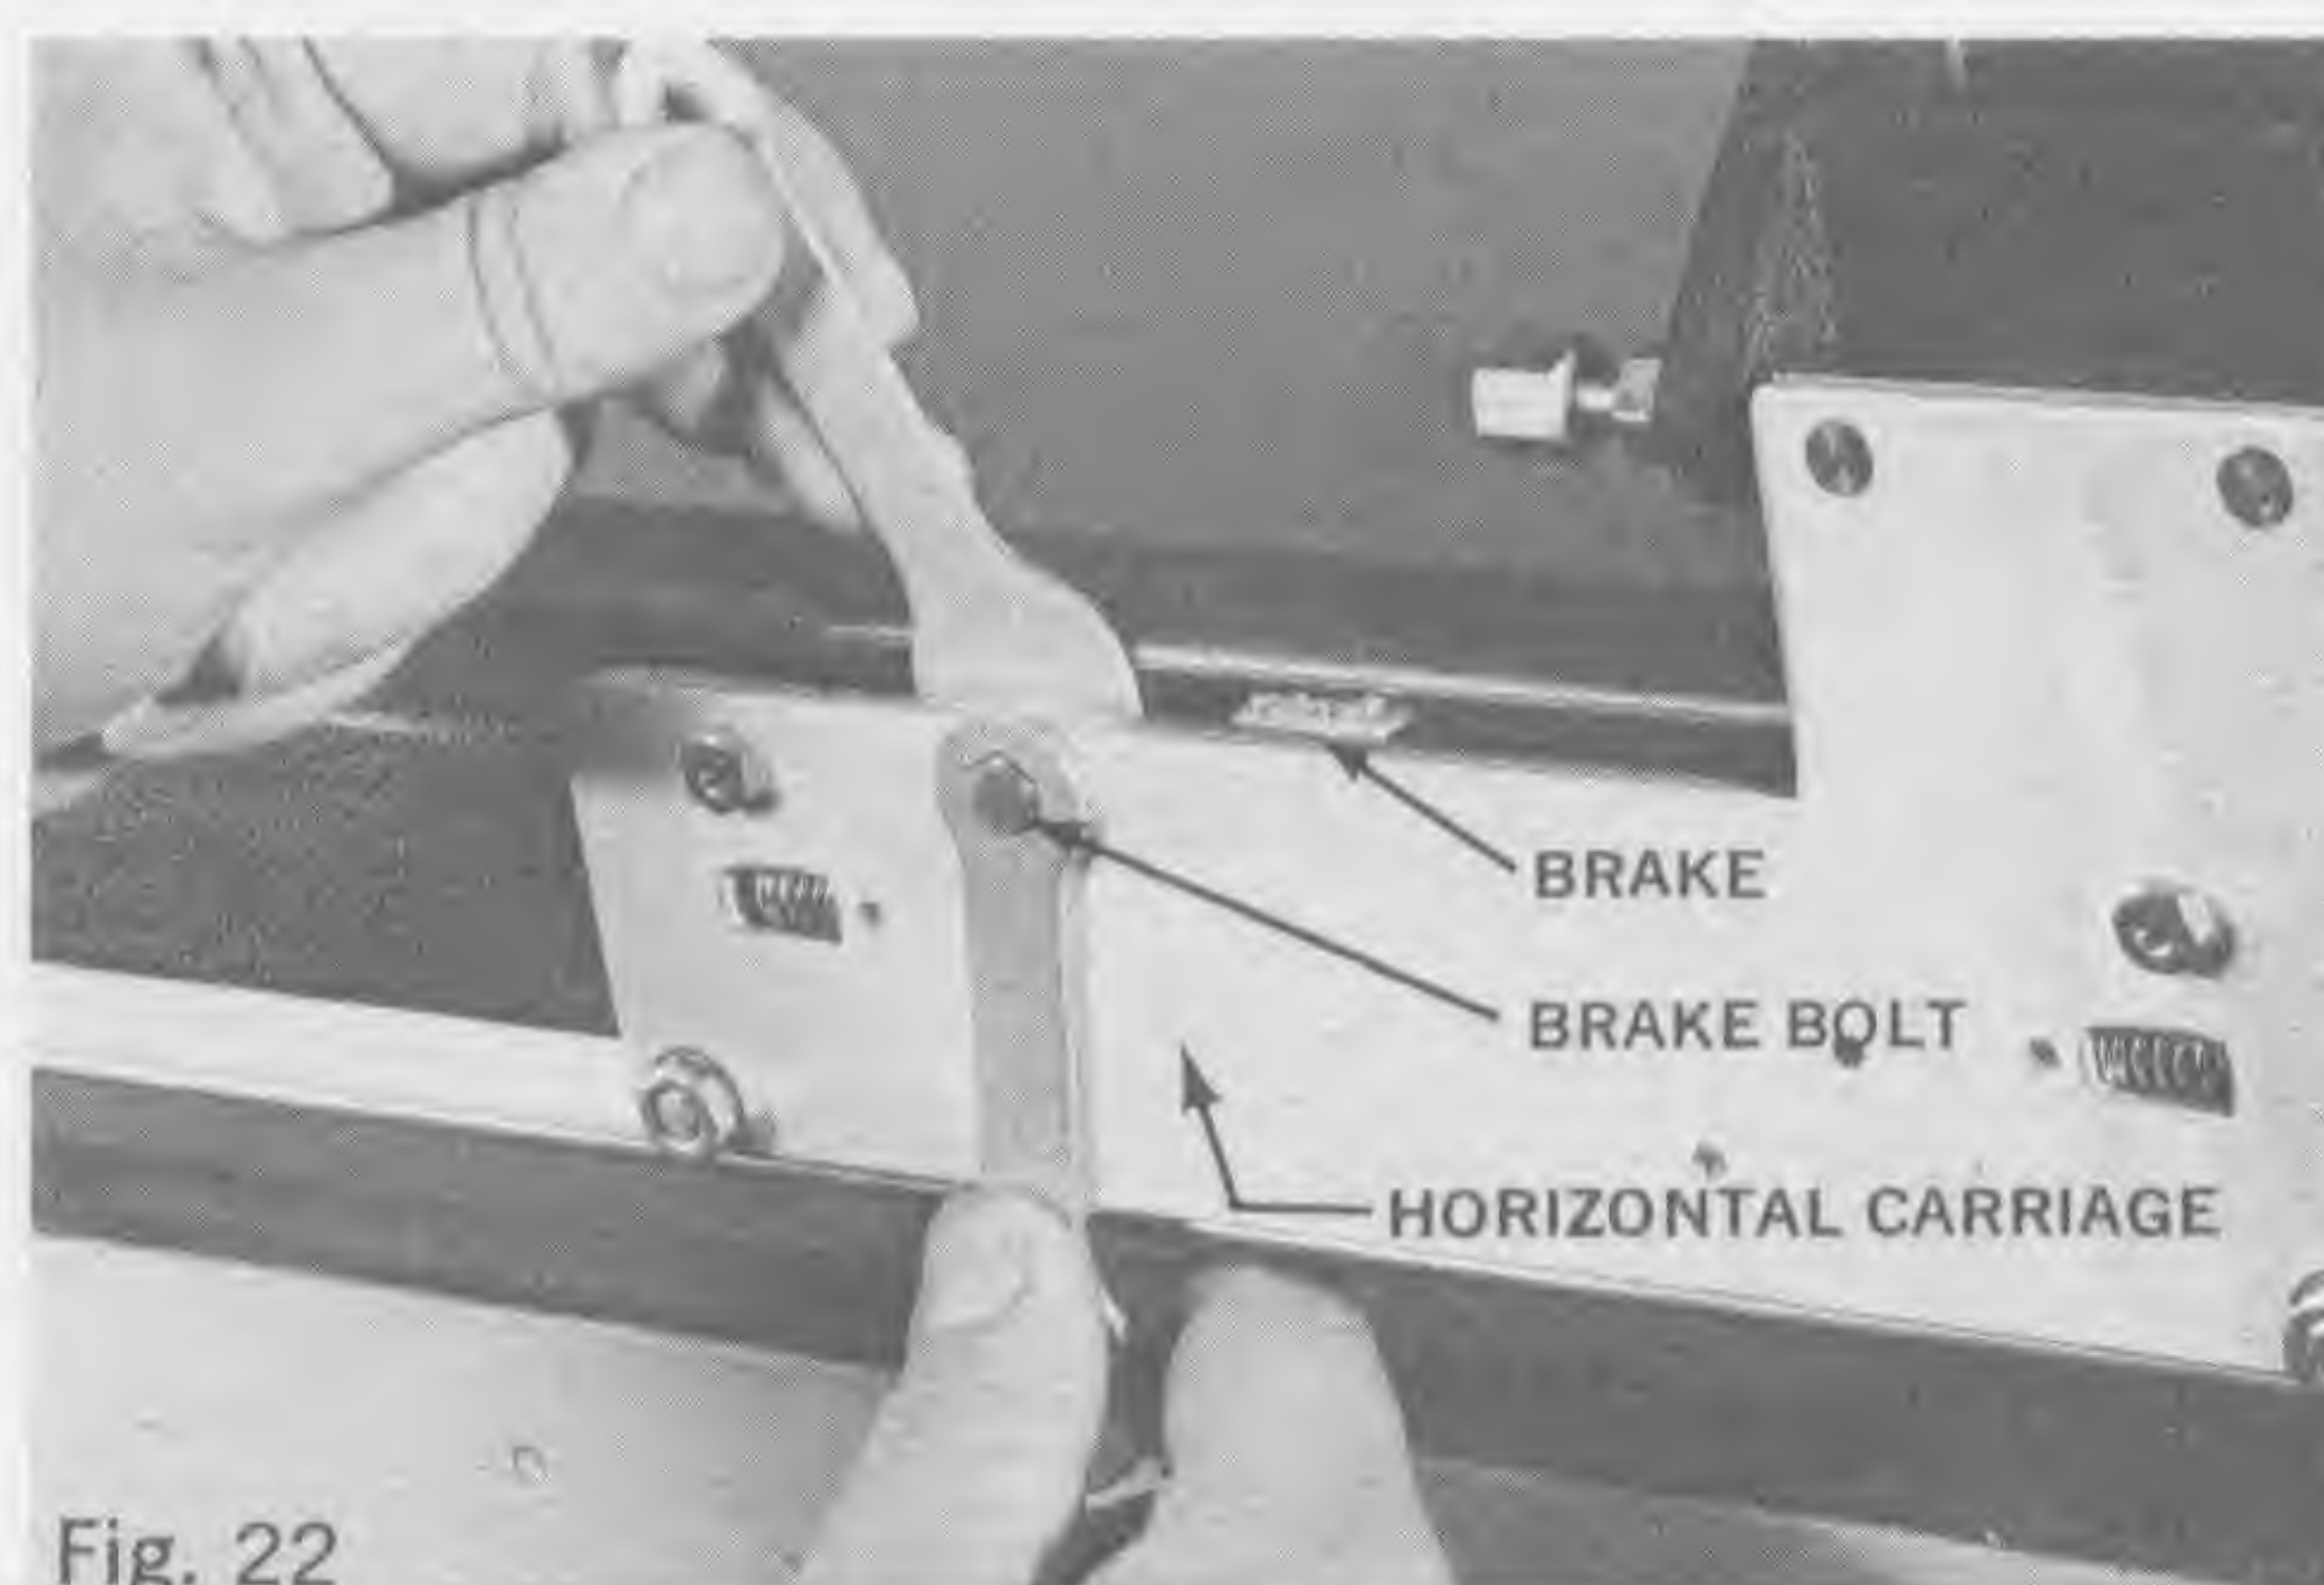

Fig. 22
1. Loosen the brake bolt on the brake eccentric (Fig. 22) with the closed end of one of the two wrenches supplied with the machine.
2. With the brake released, adjust the clearance between the brake lining and the track by rotating the brake eccentric with the open end of the other wrench (Fig. 22). This clearance should be as small as possible such as to avoid dragging of the brake pad on the track.